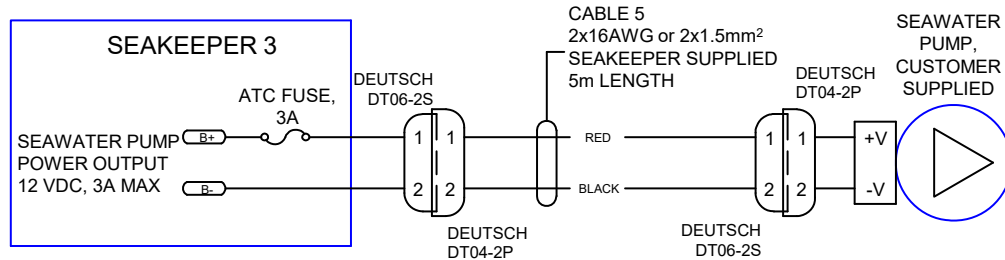

FIGURE 8 – RECOMMENDED WIRING FOR SEAWATER PUMPS
- v. The recommended wiring is shown in Figure 8. Refer to Figure 7 for CABLE 5 wire connections.